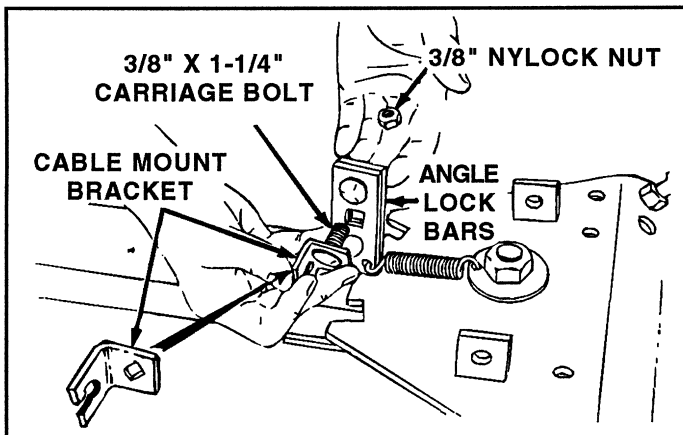
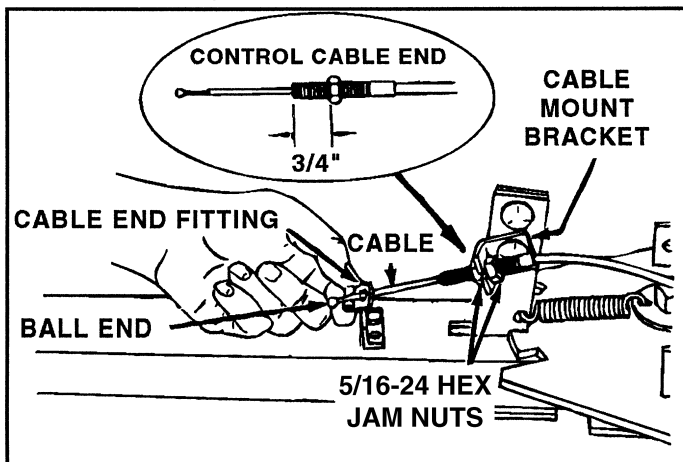

FIGURE 6
FIGURE 7
- Assemble 3/8" x 1-1/4" carriage bolt through square hole in cable mount bracket and through square hole in lock bars. See figures 6 and 7. Hold cable mount bracket in position as shown in figure 7 and secure with a 3/8" nylock nut.
- Assemble one 5/16-24 hex jam nut onto threaded end of control cable approximately 3/4" from end. Assemble threaded cable end through round hole in cable mount bracket and secure with another 5/16-24 hex jam nut. See figure 7.
- Assemble ball end of cable through round hole in cable end fitting and into slot of fitting. See figures 7 and 8.